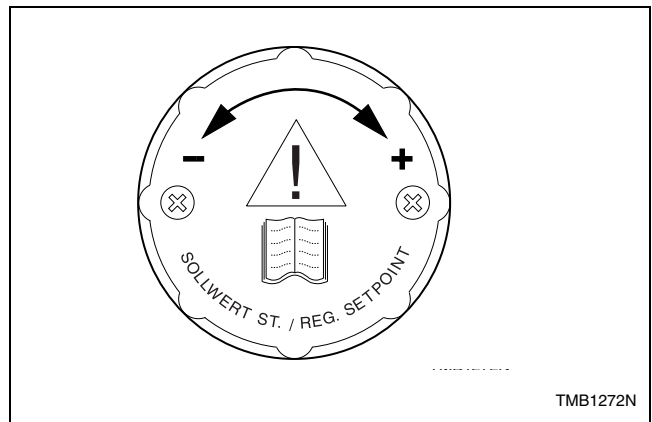

Figure 3
- b. Loosen screws on regulator adjustment knob, then turn knob clockwise. When knob no longer turns, retighten screws. Refer to *Figure 3*.
For 170 pound tumblers, loosen regulator knob screws. Refer to *Figure 3*. Turn knob to remove regulator cap and adjust regulator screw until the burner orifice pressure per applicable table is achieved. Replace regulator cap.